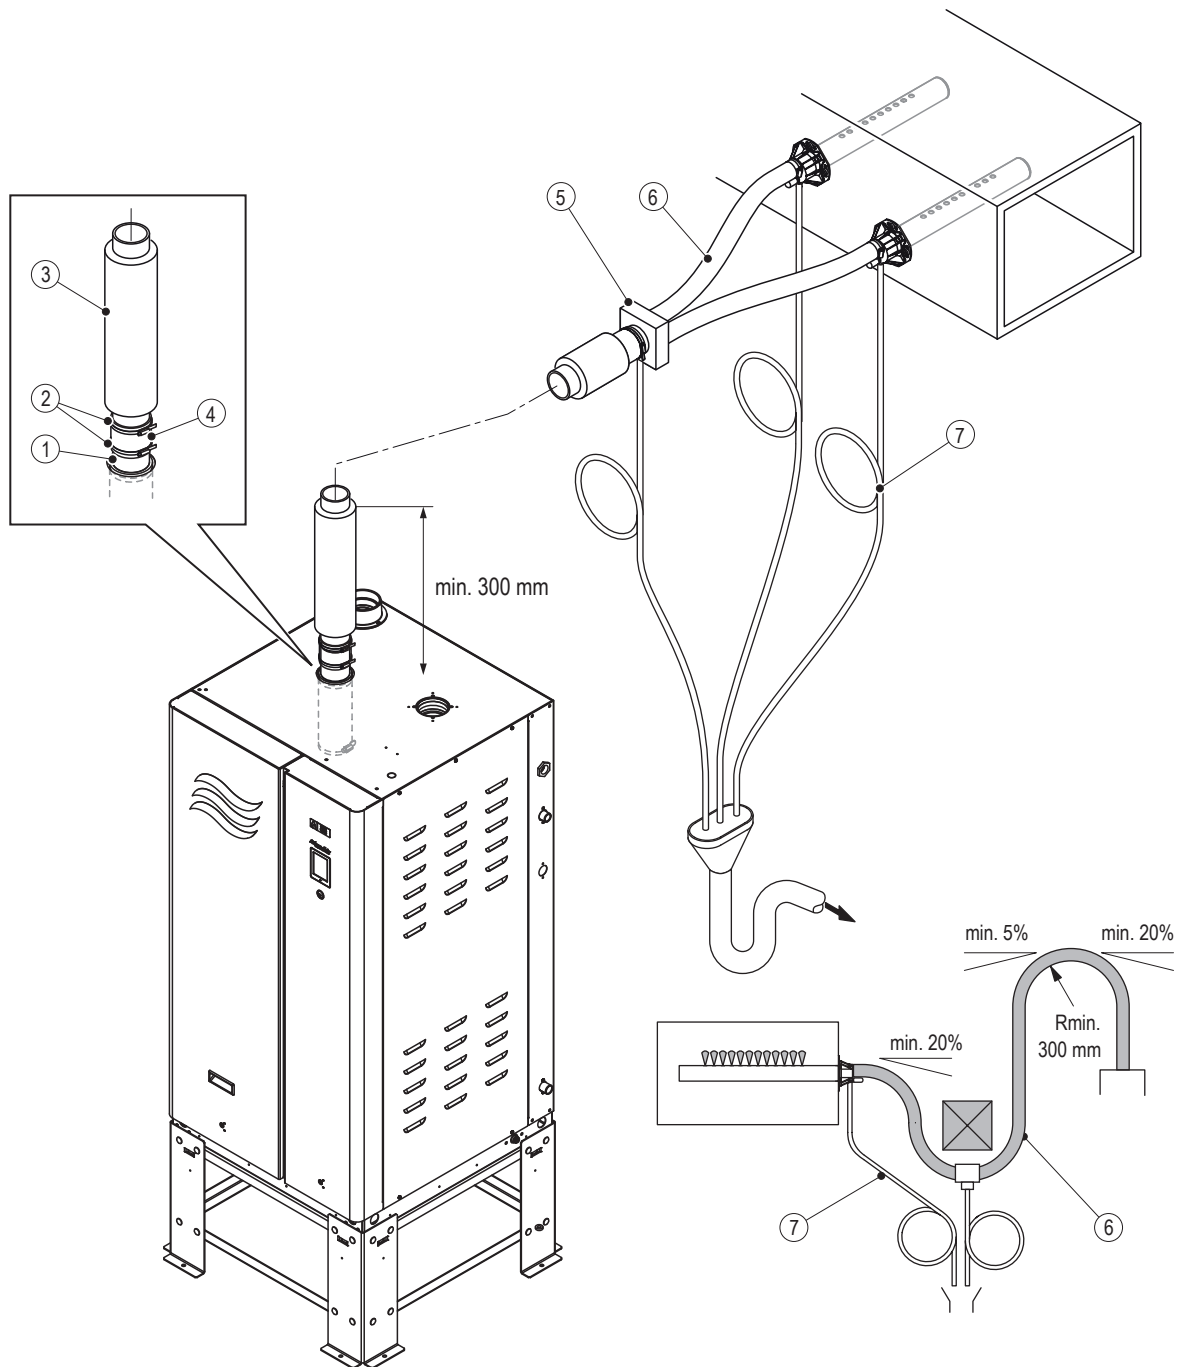
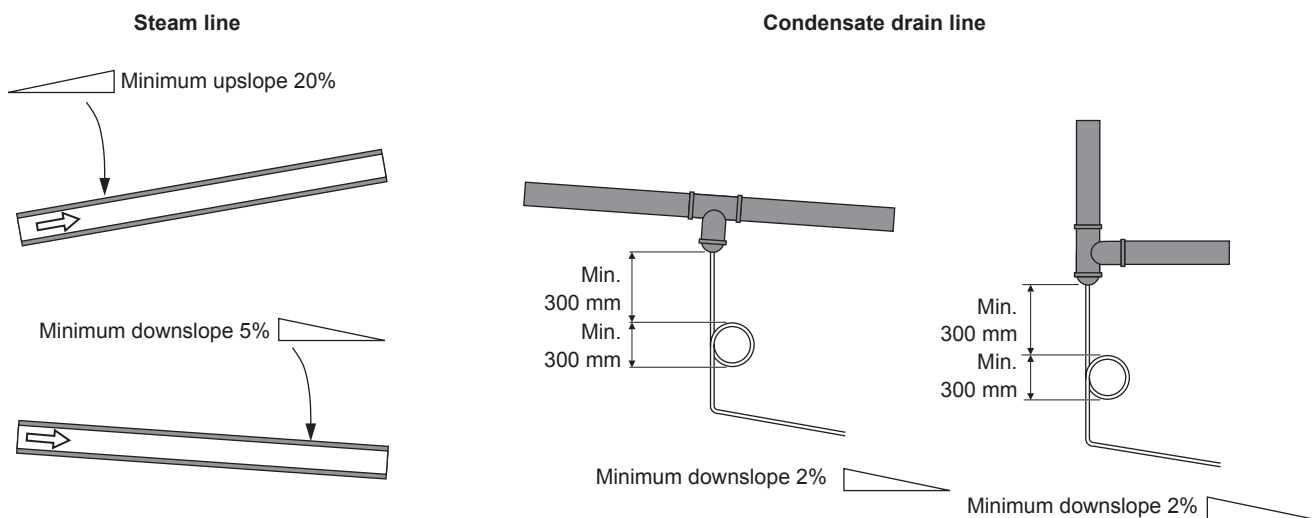

Fig. 9: Main Steam Line Installation
Fig. 10: Steam and Condensate Line
Condair recommends that you observe the following best practices for installing atmospheric steam lines and condensate lines. Refer also to Fig. 9.
- The steam line must lead straight upwards from the humidifier connection for at least 300 mm, before continuing on to the steam distribution system – refer to Fig. 9 on page 26. The steam line must have a minimum upslope of 20%, or a minimum downslope of 5% to the steam distributor – refer to Fig. 10 on page 29.
- Condensate traps must also be installed at all low points and at horizontal-to-vertical transitions in the steam line. The condensate drain lines should always connect to full-size "Tee" connectors in the steam line. Refer to Fig. 10 on page 29.